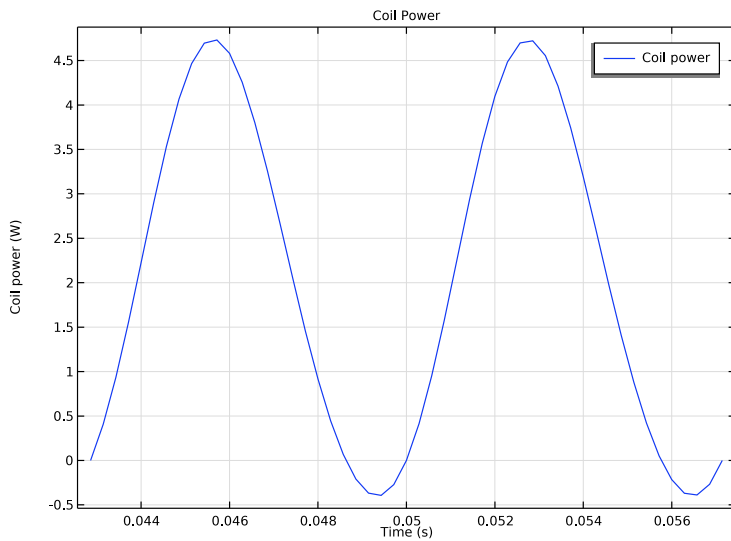
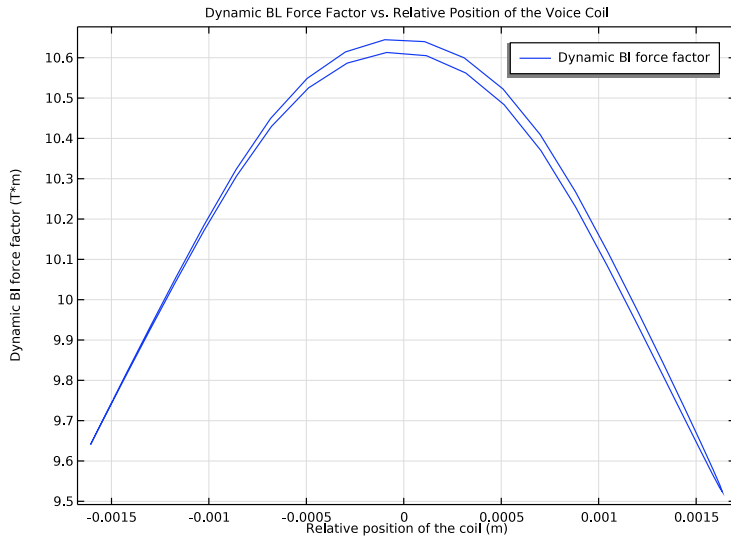

Figure 9: Coil power at the steady state.
Figure 10: Dynamic BL force factor versus relative position of the voice coil.
The plots of the coil power and the dynamic force factor (BL) are depicted in Figure 9 and Figure 10. You can see that the coil power is negative over certain time intervals. This means that the power flows from the voice coil into the circuit, that is, the voice coil operates in the generator mode. The RMS value of the power is of course positive.